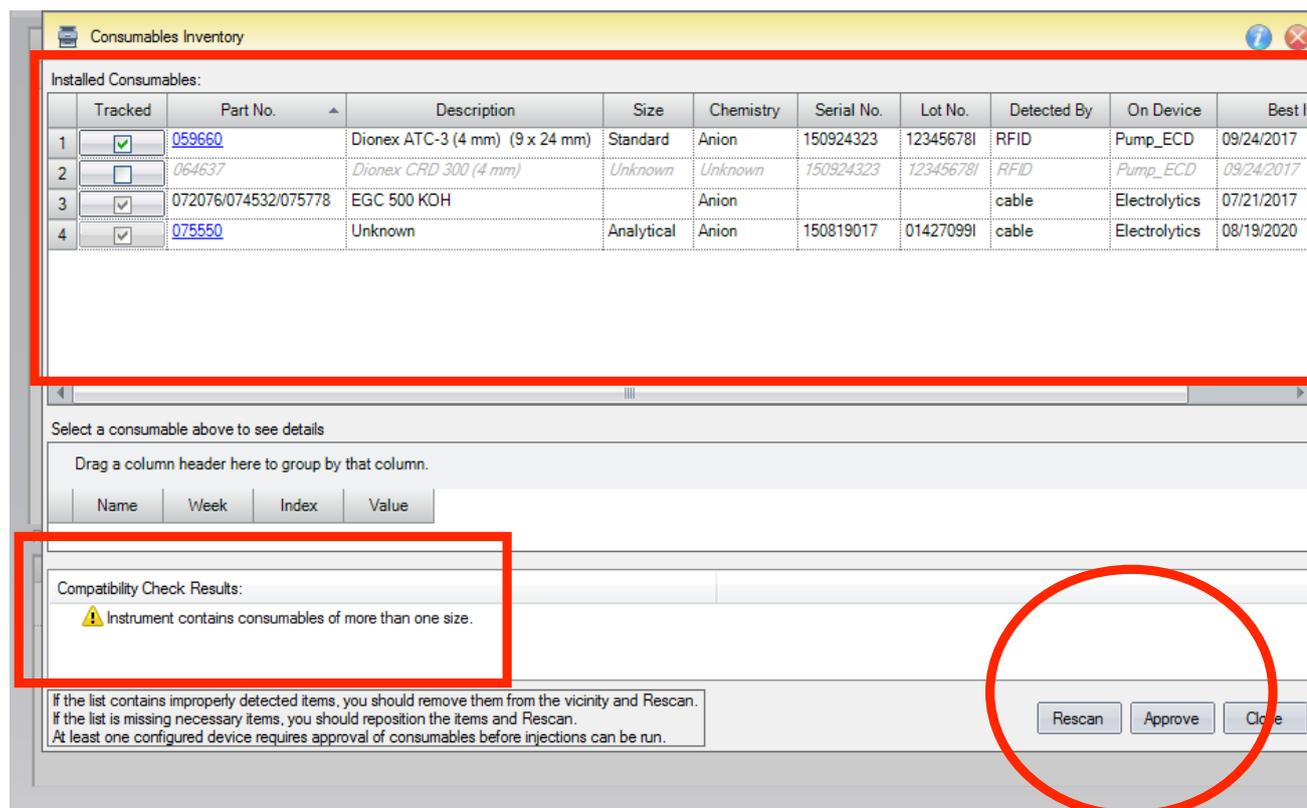

Figure 11. Consumables tracking.
A new feature of the Dionex Integriion HPIC system is consumables device monitoring and tracking. This feature automatically detects electrolytic devices and the columns. Review and approval of the devices is required to start the first sequence on the Dionex Integriion system. and when new consumable devices are installed. To access this approval, select *Consumables* and then *Inventory* (Figure 11). The device monitoring shows the
device history, tracking: Part No., size, serial numbers, manufacture lot, installed location (On Device), and best-if-used-by date (Figure 11, top). Additionally, device monitoring will provide warnings if there is incompatibility between the devices installed (Figure 11, bottom left). An action to either approve or correct an incompatibility between devices is required to start a sequence after installing any new consumable device. To start the sequence:
4. Close the page (Figure 11, bottom right).